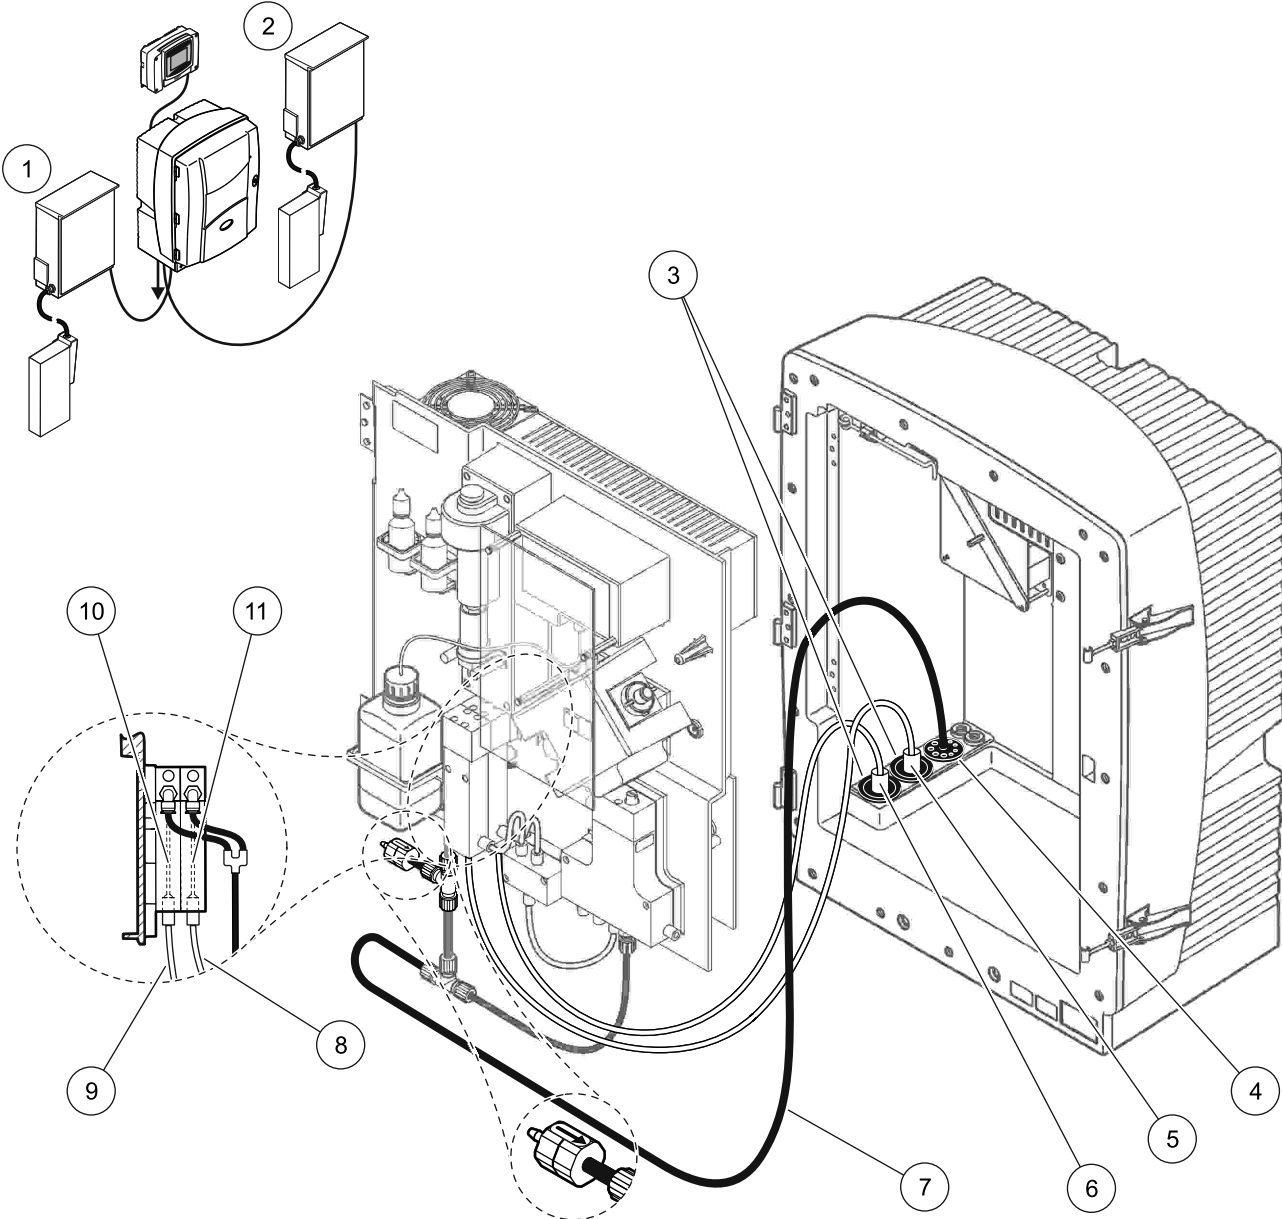

Figure 38 Option 9a setup
Refer to Figure 38 and the following instructions for Option 9a:
2. Feed the heated hose from FILTRAX 1 through the analyzer (Figure 38, item 6). Use Seal Plug #1 to secure.
3. Feed the heated hose from FILTRAX 2 through the analyzer (item 5). Use Seal Plug #1 to secure.
4. Feed the drain tube through the analyzer (item 7). Use Seal Plug #3 to secure.